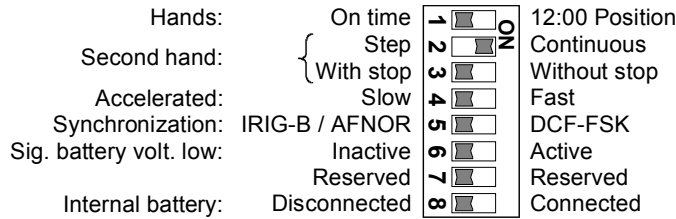

Fig. 5
- Set DIP switch **1** to **ON** position (12:00 Position, Fig. 5)
- After checking the 12 o'clock position, reset DIP-Switch **1** to **OFF** position (Fig. 5).